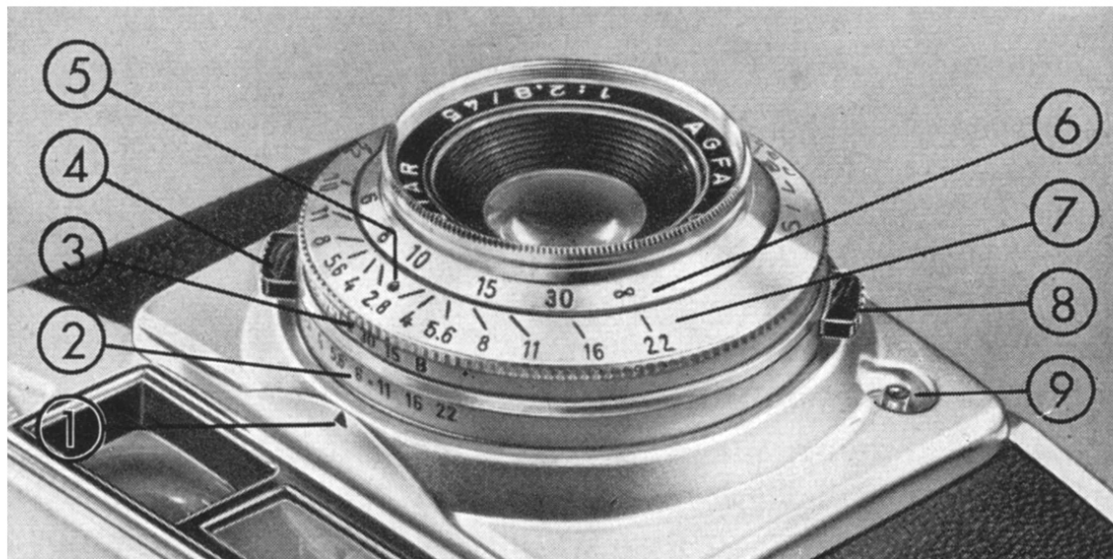

Fig. 10
Make certain once more that the DIN/ASA scale under the rewind button has been set at the speed of the film in the camera—as described on page 5—and now point your camera in the direction of your subject. The incident light causes the little pointer to move—we say it is deflected—and to settle at a certain point. This pointer deflection will be small in poor light, and great in bright light. This pointer must now be “captured” within the setting frame, also visible in the window. To do this, the iris diaphragm is moved, while at the same time both keys (4 and 8, fig. 10, page 16) are depressed with the upper one yielding to the pressure, until the pointer is in the centre of the setting frame.
When you choose the shutter speed-stop combination most favourable for your subject, you only have to see to it that a shutter speed short enough for a hand held instantaneous exposure (e.g. $1/60$, $1/125$ sec., etc.) is opposite the triangular mark (1, see fig. 10, page 16). Any combination you might now choose to set will admit the same quantity of light to the film.
When the exposure meter pointer is “*captured*” in the setting frame it may happen that the black triangular mark (1, see fig. 10, page 16) will come to
On the front rim of the lens mount the distance values in feet are engraved. The black dot (5, see fig. 10, page 16) is the focusing point which the distance value arrived at must face. Stop numbers are engraved to the left and the right of this focusing mark. These auxiliary
As you will see from the example, the zone of sharp depth is variable; it increases with decreasing aperture and also with increasing distance. To enable you to control the extent of the sharp zone, your Silette LK has a so called depth of field scale (7, see fig. 10, page 16), from which you can read at any time the approximate extent of the zone.
- ① Setting mark for stop and shutter speeds. Shutter speeds must face the apex of the triangle accurately, i. e. they must click into position.
- ② Aperture (Stop) Scale
- ③ Shutter Speed Scale
- ④ Spring Loaded Locking Key for setting the stop ring
- ⑤ Distance Setting Mark. Rotate the front mount ring 6, until the desired number faces the little black mark (e.g. 10 feet in fig. 10).
- ⑥ Mount Ring with Feet Scale
- ⑦ Depth of Field Scale (Explanation see pp. 14/15)
- ⑧ Rigid Key for the Stop Ring adjustment in connection with the spring loaded key (4)
- ⑨ 3mm. Flash Contact for the connecting cable of the flash unit